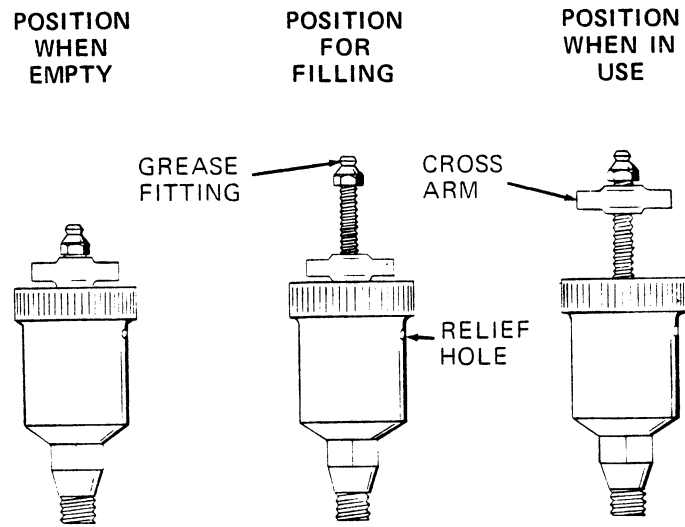

Figure 4. Automatic Lubricating Grease Cup
Before removing the seal assembly, turn the cross arm on the seal grease cup (11) clockwise until it rests against the cover (see figure 4). This will prevent the grease in the cup from escaping after the seal is removed. Remove the seal cavity drain plug (24) to drain the seal cavity. Clean and reinstall the seal cavity drain plug.
Before starting the pump, fill the grease cup through the grease fitting with a good grade of No. 2 pressure gun grease until grease escapes from the relief hole. Turn the grease cup arm counterclockwise until it is at the top of the stem; this will release the spring to apply grease to the seal (see figure 4).